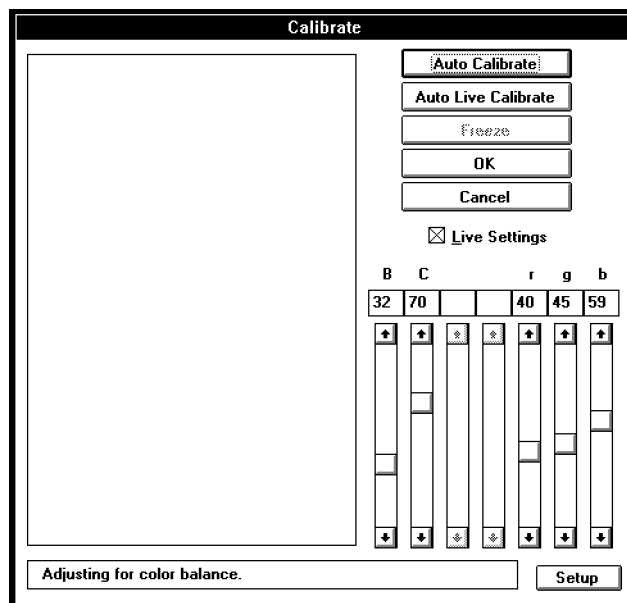

Figure 4-6. Camera Calibrate Dialog Box
5. Choose Calibrate Image Capture to display the camera Calibrate dialog box (Figure 4-6).